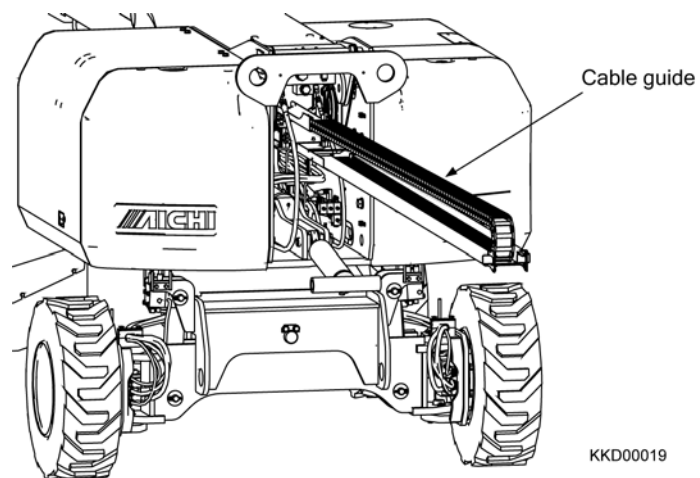

Fig. 2-48
23) Remove the cable guide, and then lay it on the stable place. (Fig. 2-48)